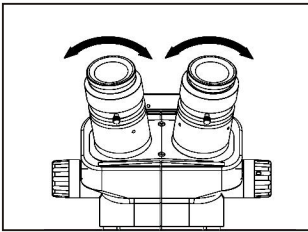

Fig.4
- (1) Adjust the prism housing along the direction of arrow of the Fig.4 till the observation is comfortable.